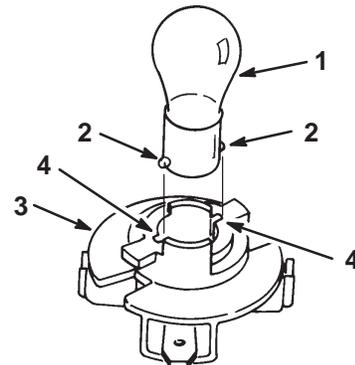

Figure 37
4. Push and rotate the bulb counterclockwise until it stops (approx. 1/4 turn) and remove bulb from the bulb holder (Fig. 37).
1. The bulb has metal pins on the side of its base. Align the pins with the slots in the bulb holder and insert the base into the holder (Fig. 37). Push and rotate the bulb clockwise until it stops.